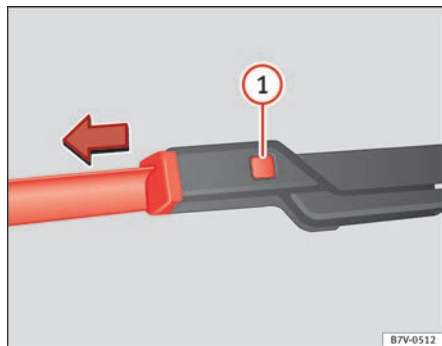

Fig. 158 Changing the front wiper blades
- Hold down the release button ⇒ fig. 158 ① while gently pulling the blade in the direction of the arrow.